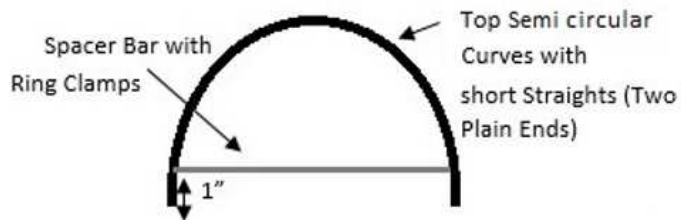

Figure 1: Attach the Spacer Bars onto the Top Curves
2. Slide a Spacer Bar onto the Top semi curves, position the spacer bar 1" from the end of the curve, as illustrated in Figure 1.
- If the distances are not equal adjust, as necessary, the clamps' positioning on the Top Curves (refer to Figure 1), and tighten the clamps.